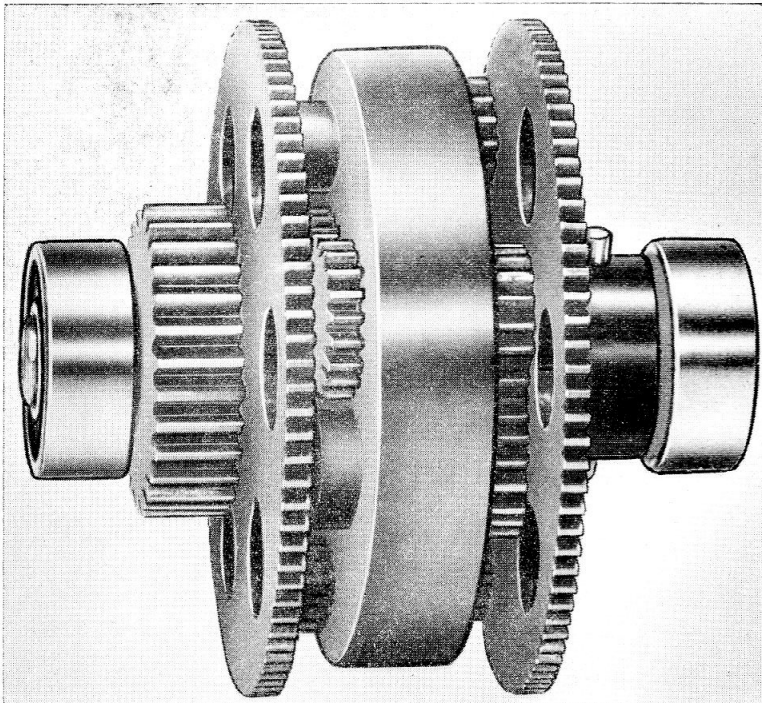

Fig. 2. Differential
9. The differential is of the spur gear type with three sets of planet wheels rotating about a central sun wheel (fig. 2). The planet wheels are mounted in an aluminium bronze carrier, the sun gears are mounted on the input spur gears, the whole being mounted co-axially on a common shaft. In the event of a motor failing, one side of the differential is locked, and the other motor will drive the actuator with full thrust at half speed.